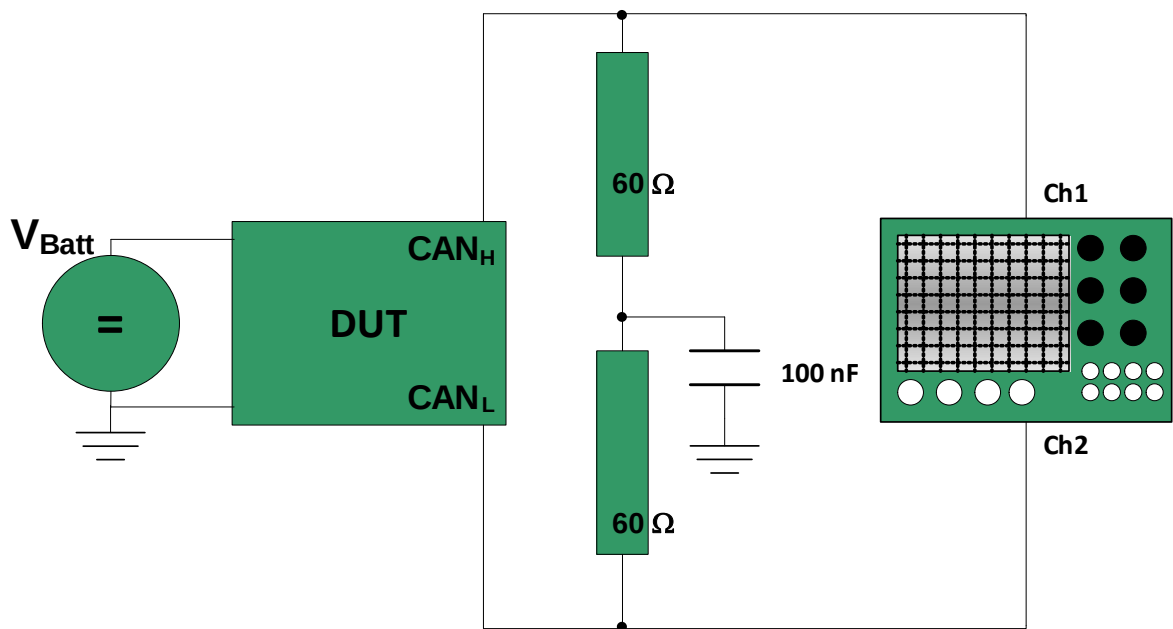

Figure 1: CGI/TSI Bus Test Setup
**Conditions** The test circuit according to Figure 1 shall be used.
| Conditions          | The test circuit according to Figure 1 shall be used.                                                                                                                                                                                                                                                                                                                           |